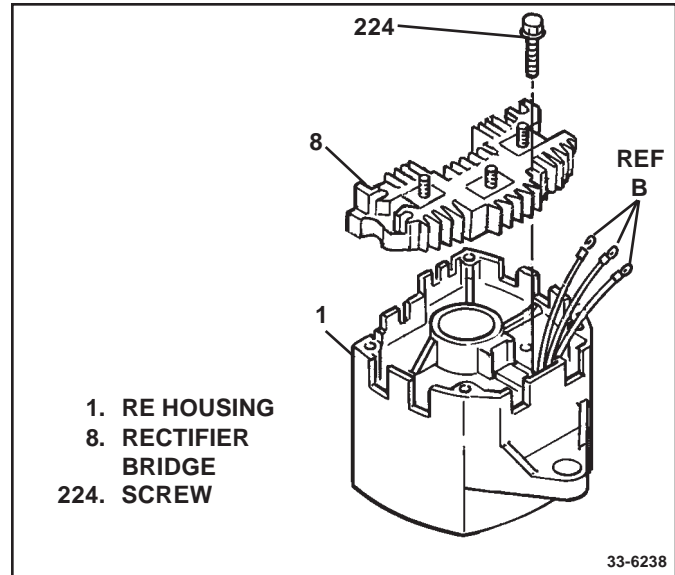

Figure 31. Installing Rectifier Bridge
10. Rectifier bridge (8) to RE housing (1). Install one rectifier bridge attaching screw (224) through grounded heat sink into RE housing. (Fig. 31) Finger tighten.